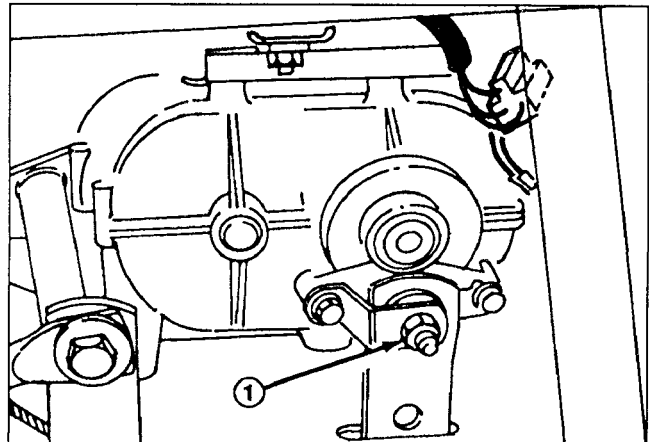

Figure 29
3. Tighten locknut approximately 1/4 turn clockwise (Fig. 29).